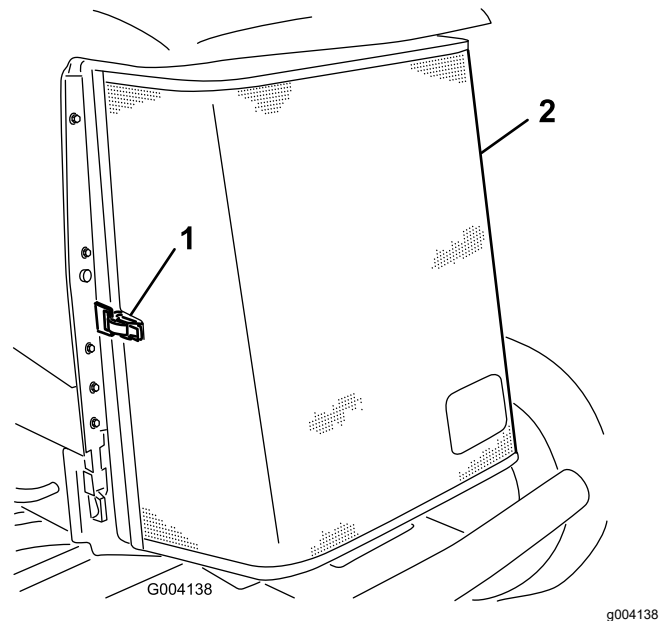

Figure 62
3. Unlatch the clamp and pivot open the rear screen (Figure 62).